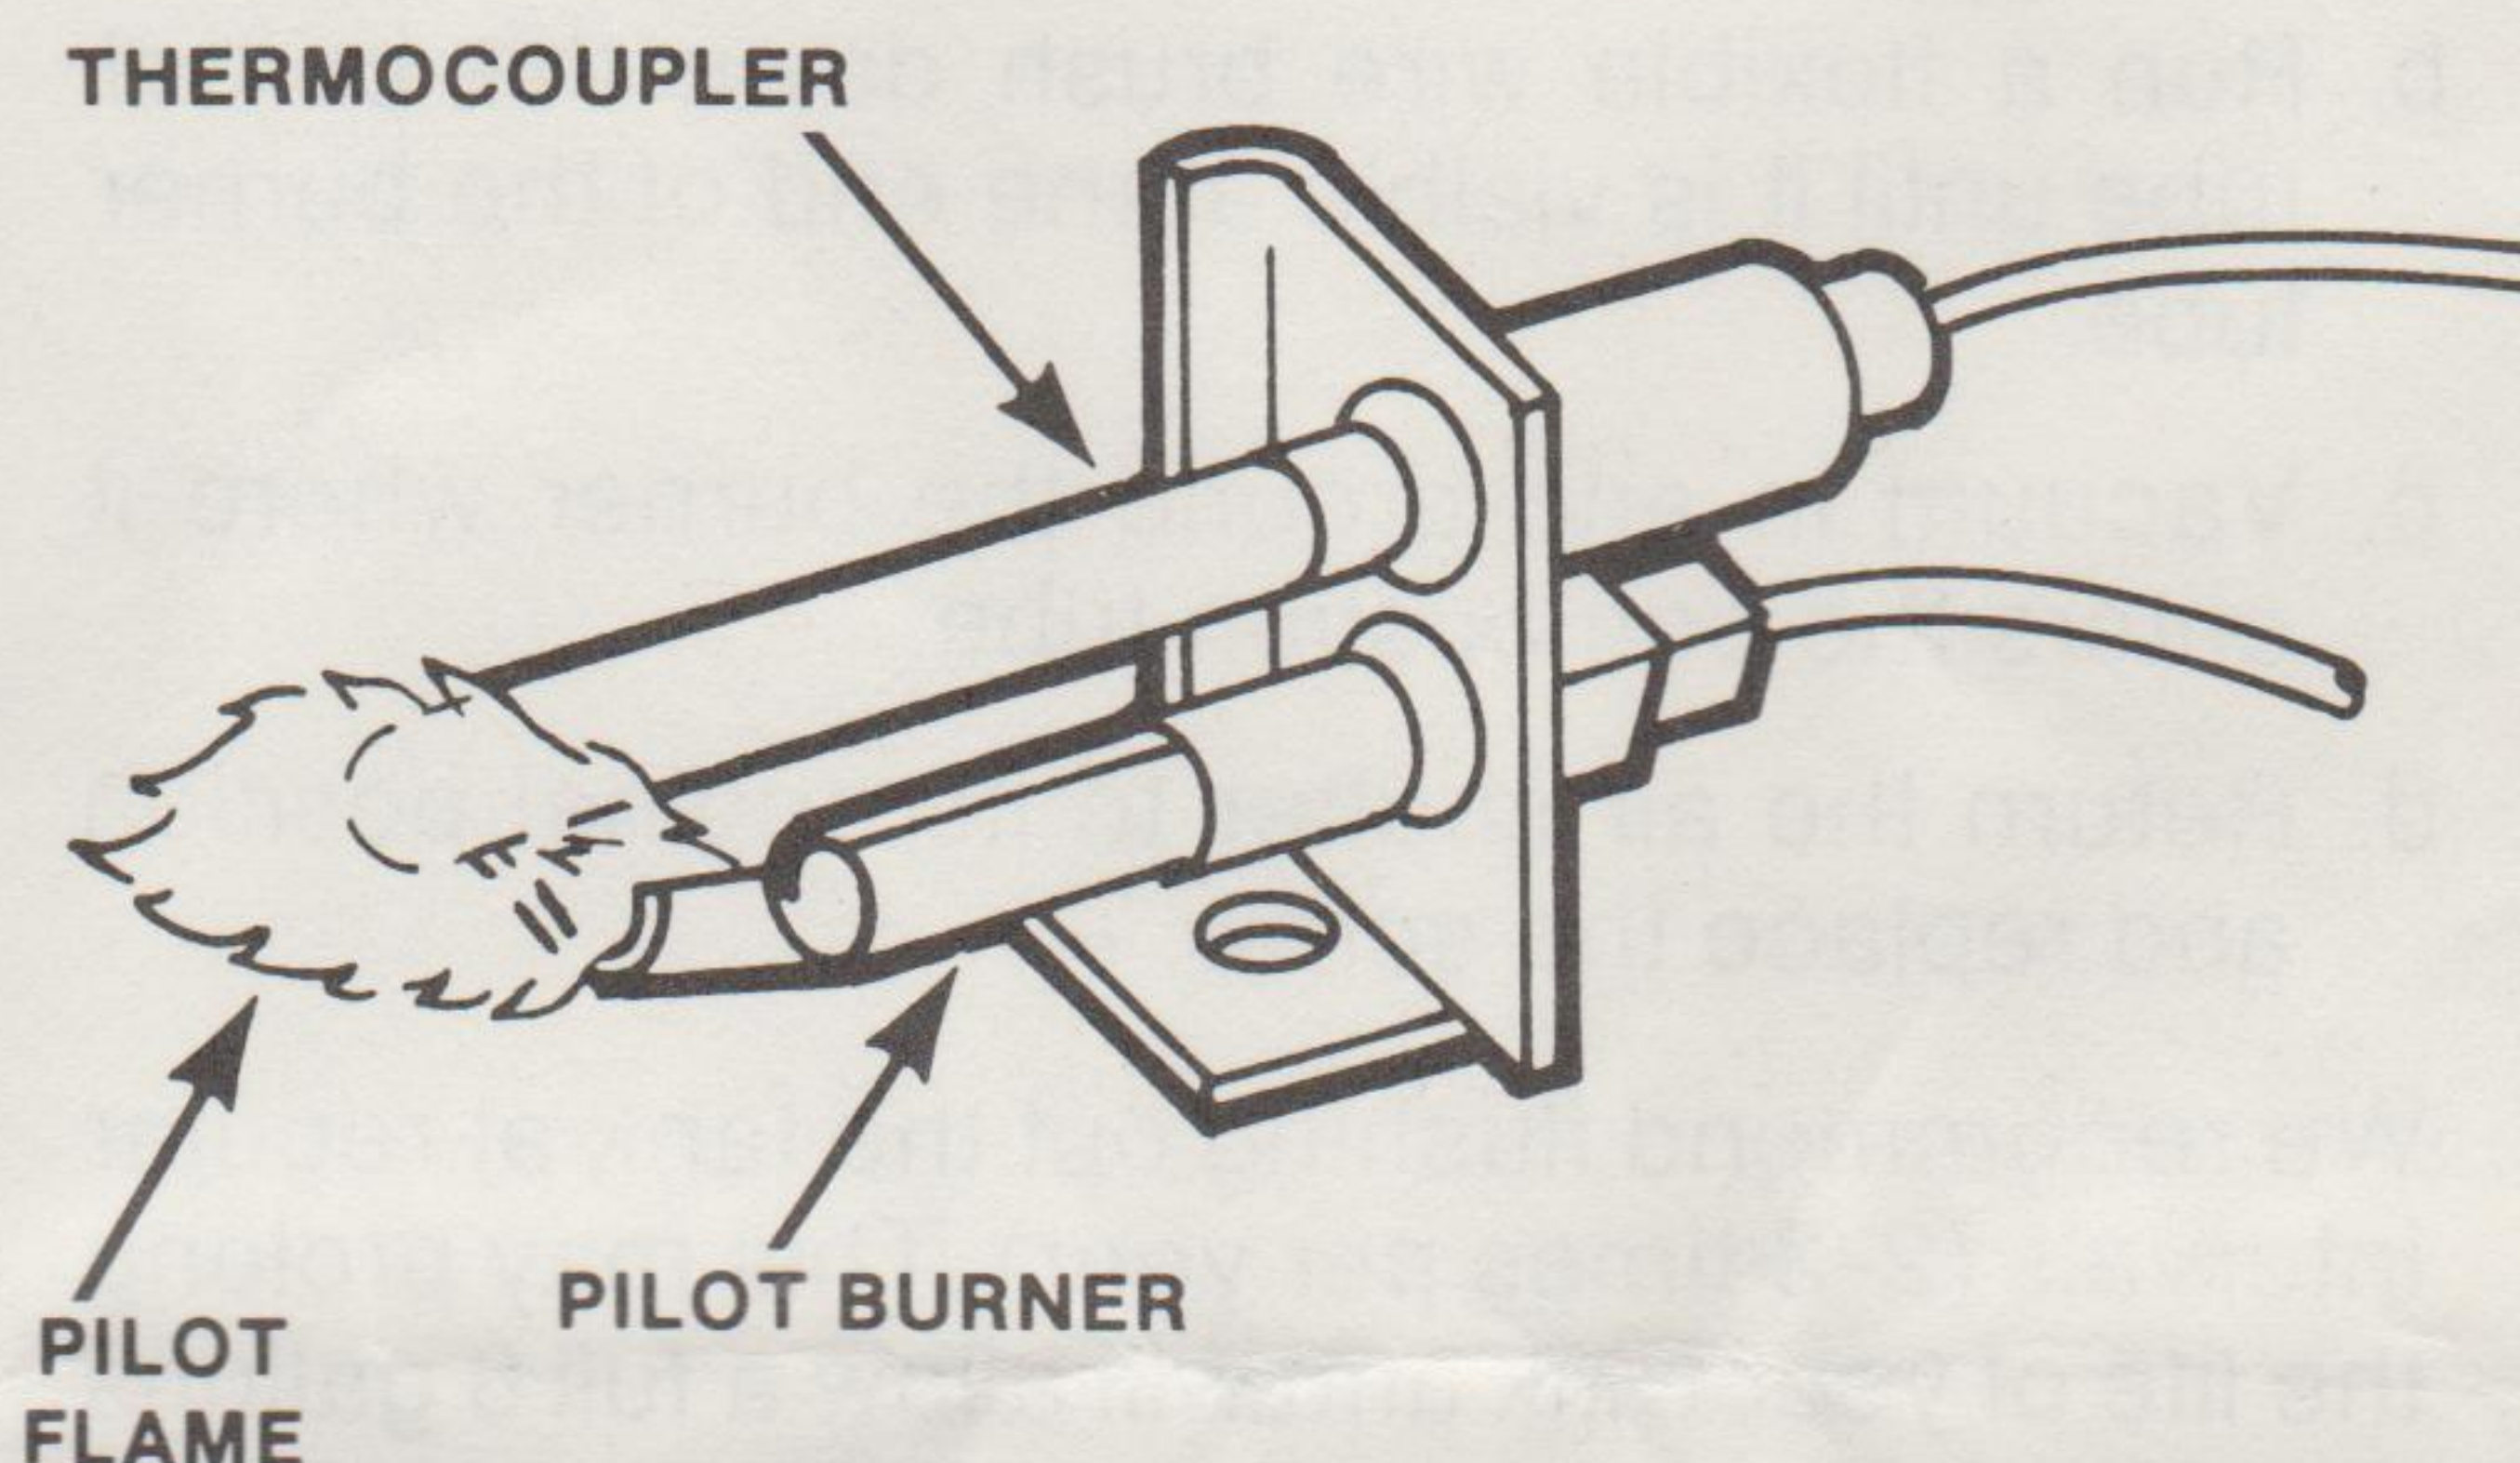

FIGURE 11
To Adjust Pilot Burner: (Figure 11)
3. Adjust flame size to approximately 1/4" as shown in Figure 11. Flame should envelop thermocouple.
3. Compare flame of main and pilot burners with Figures 11 and 12 periodically.